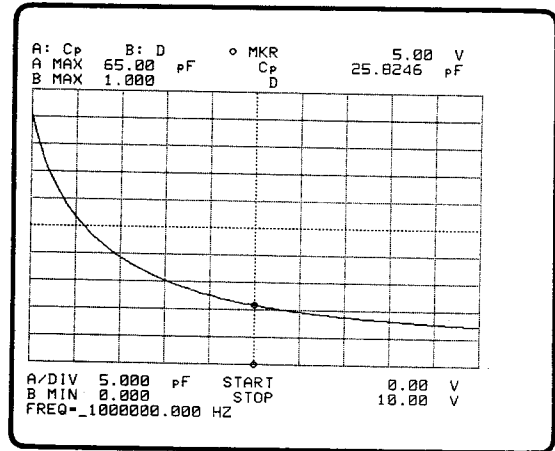

Figure 3-65. DC BIAS Sweep
**DC BIAS (V):**
Softkey used to select DC BIAS(V) as the sweep test parameter. When this key is selected, the units in parameter area of the screen are displayed as shown in Figure 3-65.